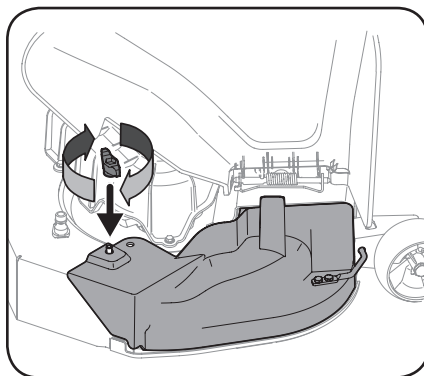

Figure 1-6
3. Secure the mulch plug in place with the wing knob. See Figure 1-6